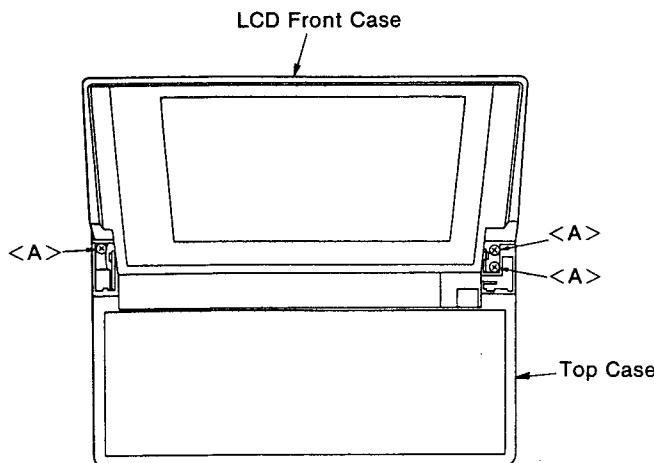

Figure 25
- (1) Remove three screws <A> ($3\phi \times 6\text{mm}$) as shown in Figure 25 and gently remove the top case from the LCD front case.